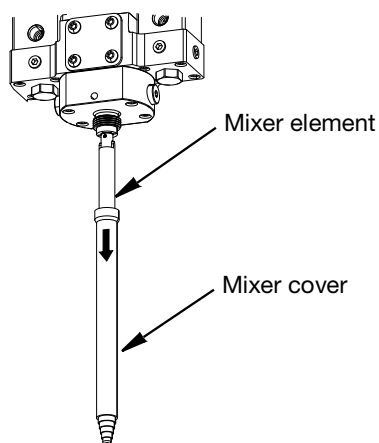

FIG. 32
- Slide the mixer cover off the mixer elements. See FIG. 32.